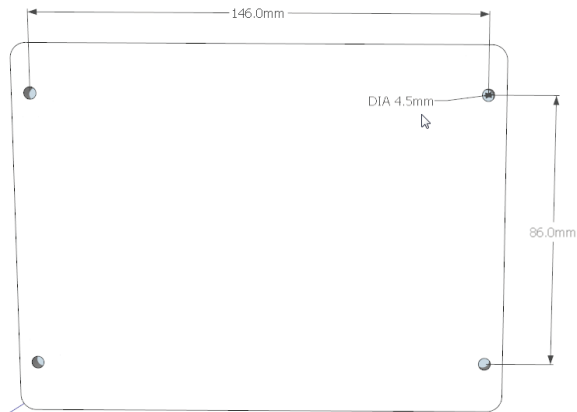

Figure 20
- Fix the base of the module with the cable glands facing downwards to a firm flat surface using suitable screws. Use the four mounting holes provided in the corners of the box. Dimensions for these holes are shown in figure 20.